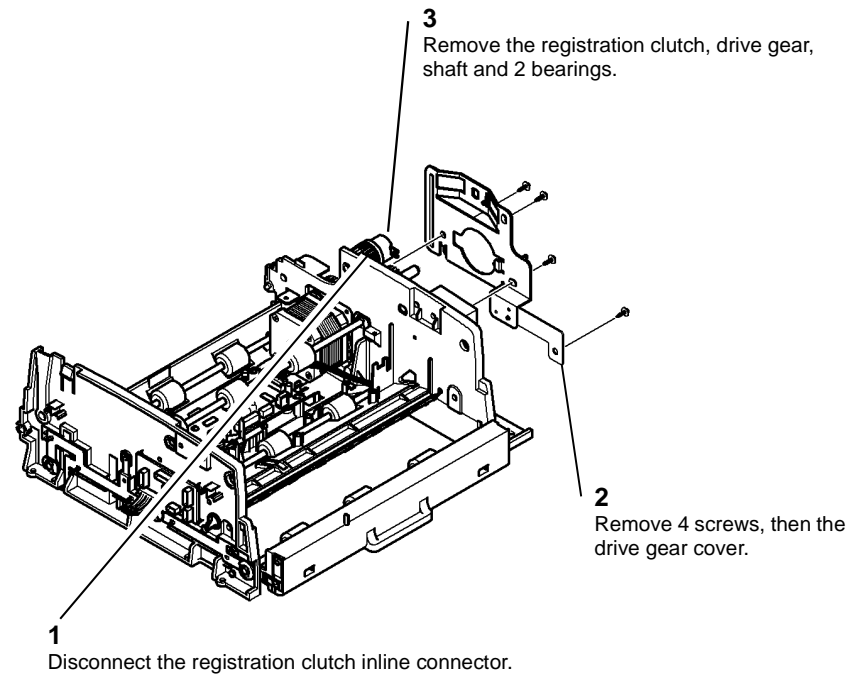

Figure 18 Drive gear cover removal
19. Remove the drive gear cover, **Figure 18**.